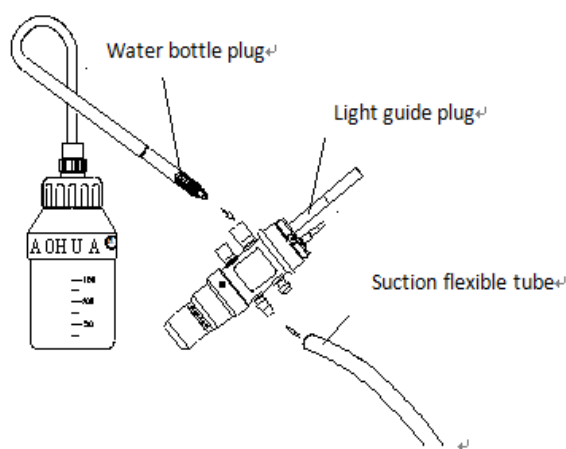

Figure 4.1
(1) connect the suction flexible tube of the suction unit and the suction connector in the light guide plug of the fiber gastrointestinal endoscope (See Figure 4.1)
(2) switch on the power supply of the suction unit,
(1) Distilled water or purified water should occupy 80% of the bottle volume. Then, tighten the cap, and place the bottle at the location designated on the video system center.
(2) Connect the bottle and the light guide connector (See Figure 4.1)
(3) Turn on the air pump, the air pump has automatic air feeding function.